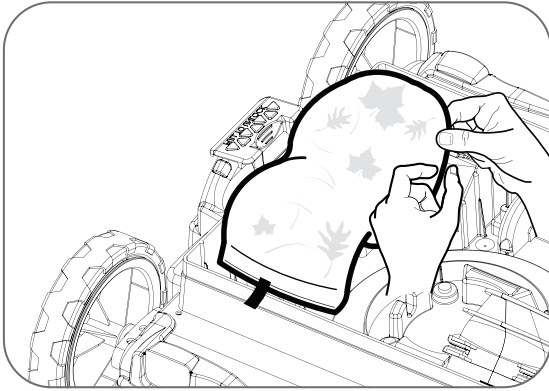

Figure 14. Release the Elastic Band around Bag
3. Pull gently on the elastic band around the suction ports to release the filter bag (Figure 14).